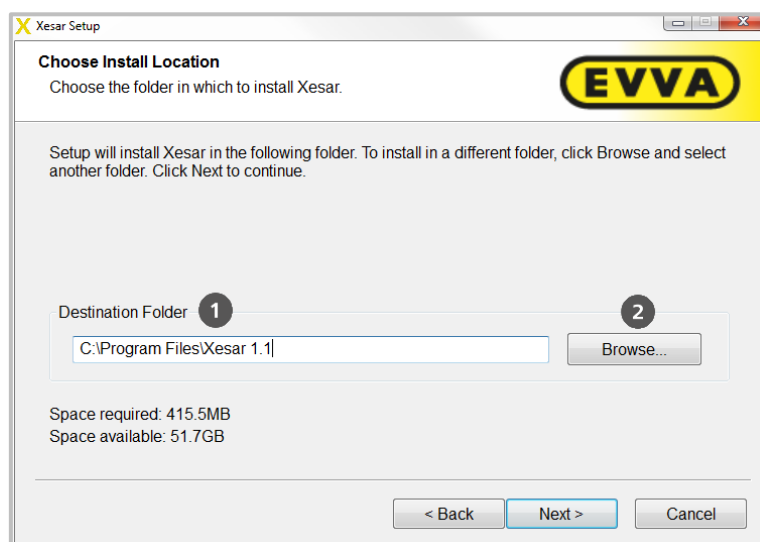

Figure 34: Xesar installation — selecting the designated directory
By default the Xesar software is installed in a directory on the system drive ❶ (Figure 34: Xesar installation — selecting the designated directory). Click Browse ❷ (Figure 34: Xesar